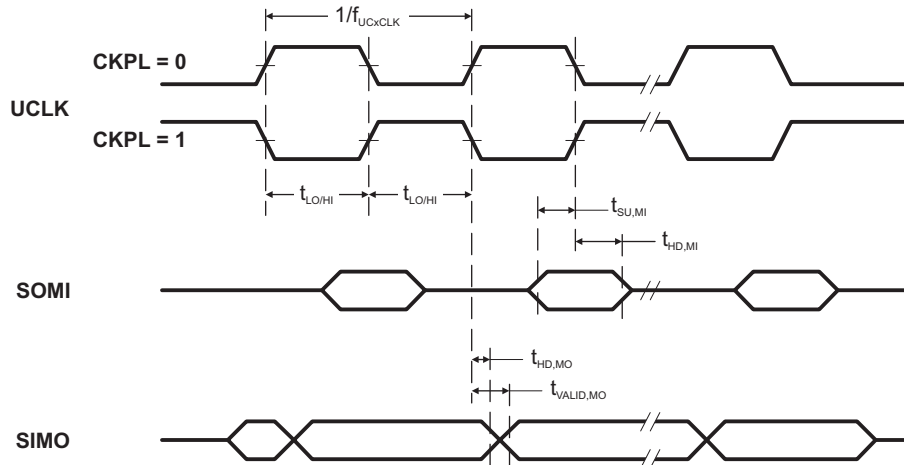
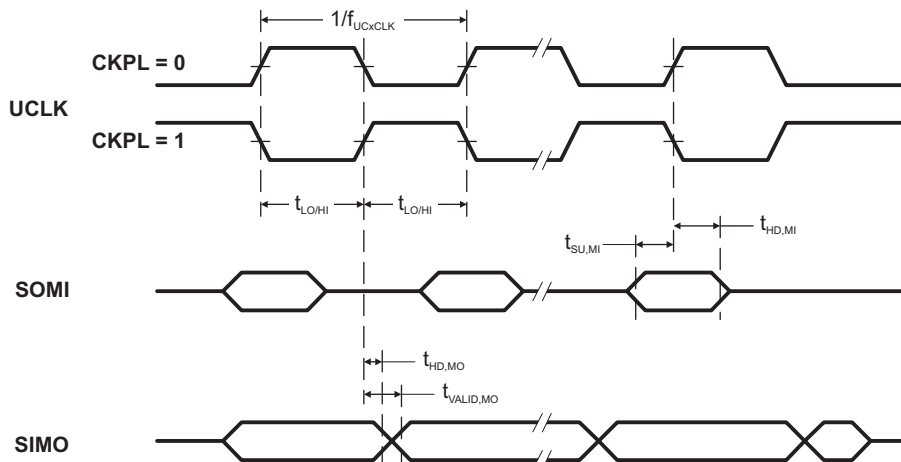

Figure 14. SPI Master Mode, CKPH = 0
Figure 15. SPI Master Mode, CKPH = 1
(see Note ⁽¹⁾, Figure 14 and Figure 15)
- (2) Specifies the time to drive the next valid data to the SIMO output after the output changing UCLK clock edge. See the timing diagrams in Figure 14 and Figure 15.
- (3) Specifies how long data on the SIMO output is valid after the output changing UCLK clock edge. Negative values indicate that the data on the SIMO output can become invalid before the output changing clock edge observed on UCLK. See the timing diagrams in Figure 14 and Figure 15.